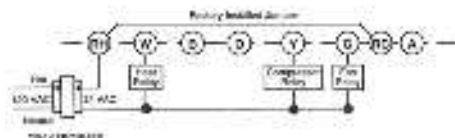
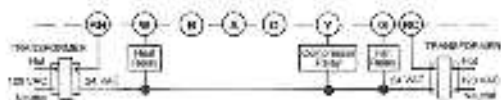

Figure 2. Typical wiring for single transformer heating/cooling system
Figure 3. Typical wiring for two-transformer heating/cooling system
- If your system has more than two wires:** Use the cross reference chart to determine correct wire connections. If you have a four-wire heat/cool system leave the factory installed jumper between RC and RH attached (see Fig. 2). If your system has five wires remove the factory installed jumper between RC and RH (see Fig. 3).